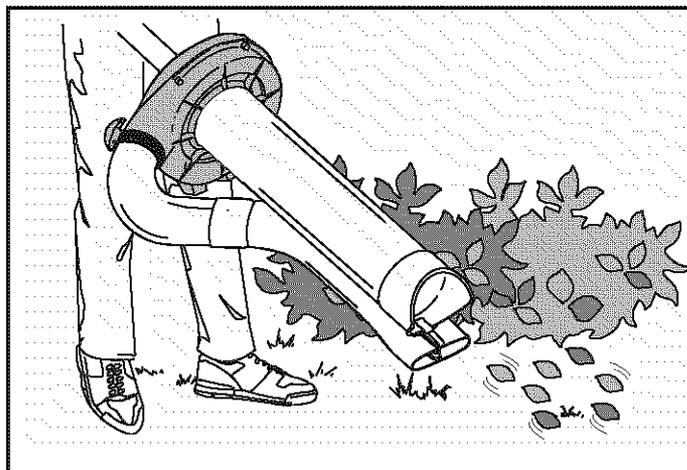

Fig. 10
1. You can blow debris from around buildings, trees, shrubs, and flower beds, or into a pile to be vacuumed. (Fig. 10)